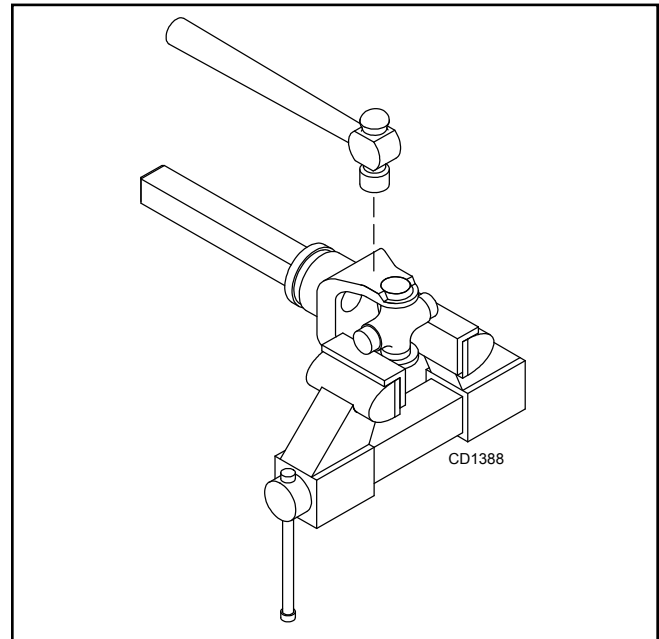

Figure 20.
4. Place universal cross in vise as shown in Figure 20 and tap on yoke to remove cup. Repeat Step 3 for final removal. Drive remaining cup out with a drift and hammer.
3. Seat cups by placing a drift or socket (slightly smaller than the cup) on cup and rap with a hammer. See Figure 20. Install snap ring and repeat on opposite cup.